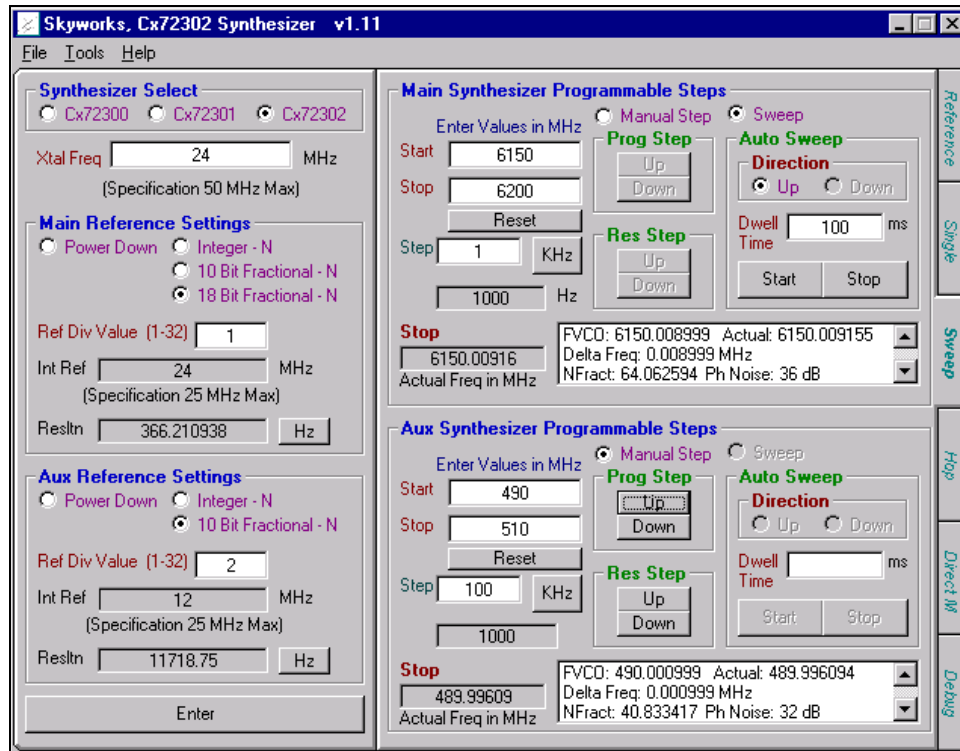

Figure 3. Software Interface Window: Sweep Tab
1. Click the **Sweep** tab of the software interface window (see Figure 3).